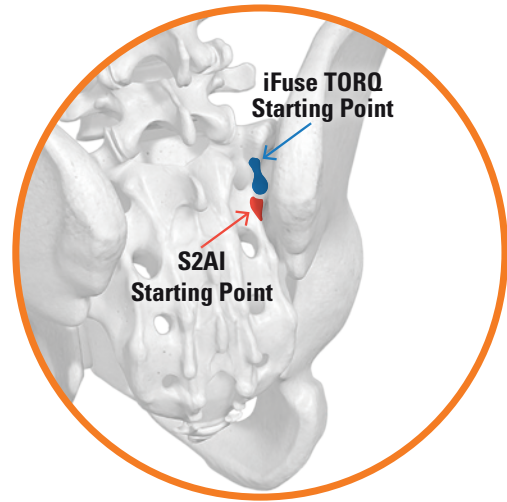

Figure 6: Schematic showing starting point for S2AI screw (red arrow) and iFuse TORQ Implant (blue arrow)
- ▶ **The starting point for the S2AI screw should be at the level of the midpoint between the S1 and S2 dorsal foramina, at the level of the lateral aspect of the foramen, and in line with the S1 pedicle (Fig. 6, red arrow)**
- ▶ Starting point will frequently be at level of the midpoint of the S1 neuroforamen along the lateral border of the foramen (**Fig. 6, blue arrow**)